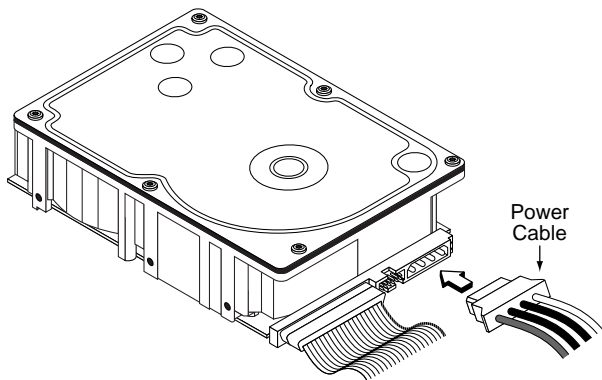

Figure 8. Connecting cables to the drive
- b. Connect the SCSI cable into the drive's SCSI connector as illustrated in Figure 8 on page 26. Take care not to stretch or crimp this cable, and do not block the system's air flow with the cable. Figure 9 on page 27 shows an example of how to connect multiple drives on the same bus.
- c. Connect the DC power cable to the drive as illustrated in Figure 8.